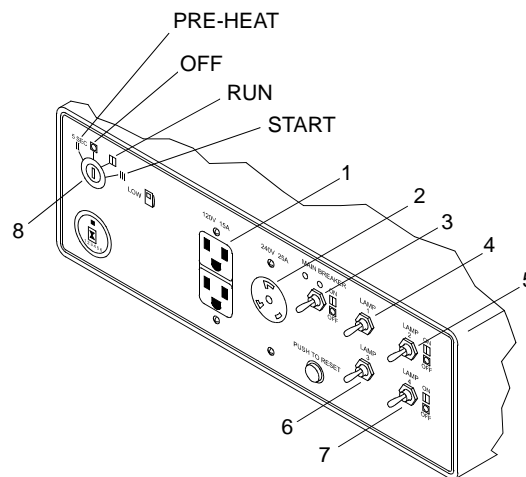

Figure 16. Light Tower Control Panel
1. Unplug external loads from receptacles (figure 16, items 1 and 2)
2. Position main breaker (figure 16, item 3) to OFF position.
3. Position all lamp switches (figure 16, items 4, 5, 6 and 7) to OFF (down) position.
4. Turn rotary switch (figure 16, item 8) to PREHEAT for 5 seconds prior to starting.
5. Turn rotary switch (figure 16, item 8) to START immediately.
6. Release rotary switch (figure 16, item 8) after engine continues to run.
Allow engine to warm-up for 3–5 minutes before lamp switches (figure 16, items 4, 5, 6 and 7) and receptacles (figure 16, items 1 and 2) can be used.
8. Plug external loads into receptacles as required (figure 16, items 1 and 2).
9. Position main breaker (figure 16, item 3) to ON position.
10. Position all lamp switches (figure 16, items 4, 5, 6 and 7) to ON (up) position as required.
1. Position main breaker (figure 16, item 3) to OFF position.
2. Unplug all external loads from receptacles as required (figure 16, items 1 and 2).
4. Turn rotary switch (figure 16, item 8) to OFF.